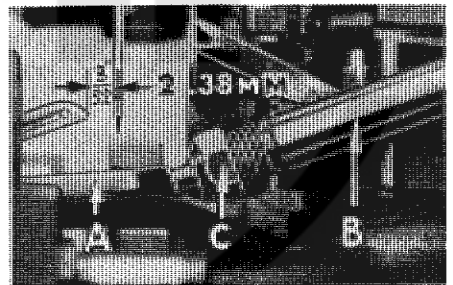
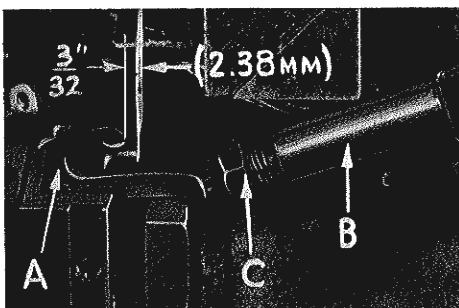

Fig. 6
Fig. 6A
At this point, insert lower looper (A, Fig. 6) on Styles 39500 QG, SD and TC or lower spreader (A, Fig. 6A) on Style 39500 RN into bar (B). With lower looper or spreader at left end of its stroke, set looper or spreader point  $\frac{3}{32}$  inch (2.38 mm) from centerline of needle (Fig. 6 or 6A) using looper gauge No. 21225-3/32. Do not have lower looper or spreader deflecting needle. Tighten nut (C). Now assemble differential (front) feed dog.